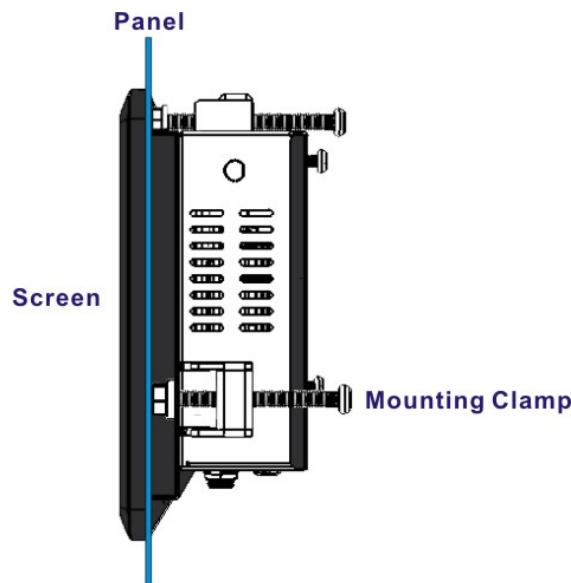

Figure 3-13: Tighten the Mounting Clamp Screws
- Step 4:** Insert the mounting clamps into the mounting brackets and pre-formed holes along the edges of the PPC-F06B-BT, behind the aluminum frame (Figure 3-13). There are a total of four mounting clamps required.
- Step 5:** Tighten the screws that pass through the mounting clamps until the plastic caps at the front of all the screws are firmly secured to the panel (Figure 3-13).